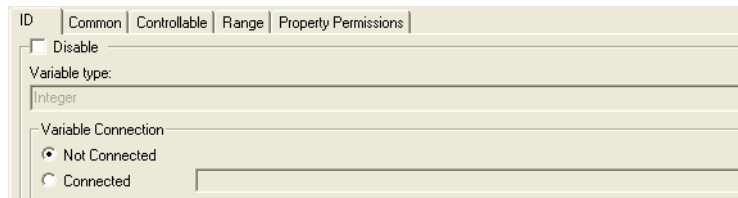

Figure 26. Signal Configuration Aspect
27. Select the Signal Configuration aspect, see also Figure 26. Under the ID tab, you can connect the signal to a hardware address in the controller.